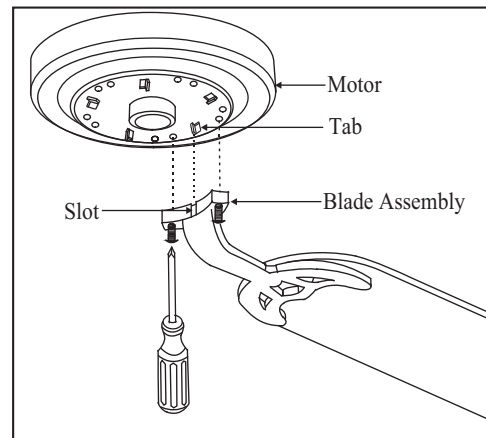

Figure 10
Step 3. Fasten the blade assemblies to the motor housing by lining up the slots of the blade arms with the tabs on the motor housing, then tighten the two screws and washers already installed in the blade arms. (Fig. 10)